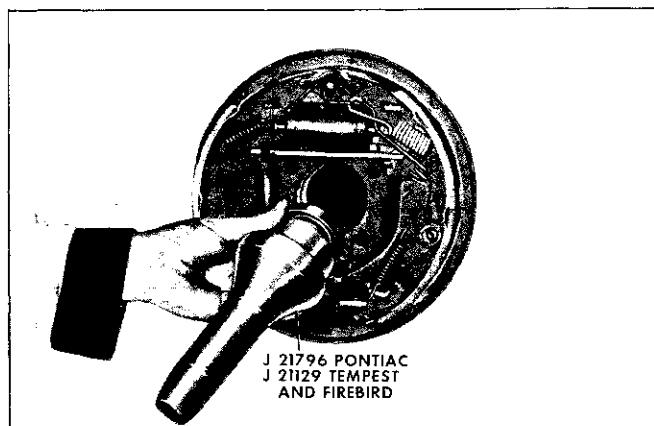

Fig. 4A-14 Installing Axle Shaft Seal (Typical)
5. Place the new outer retainer gasket (Fig. 4A-3) and retainer over studs and install nuts. Tighten nuts to 35 lb. ft. torque.